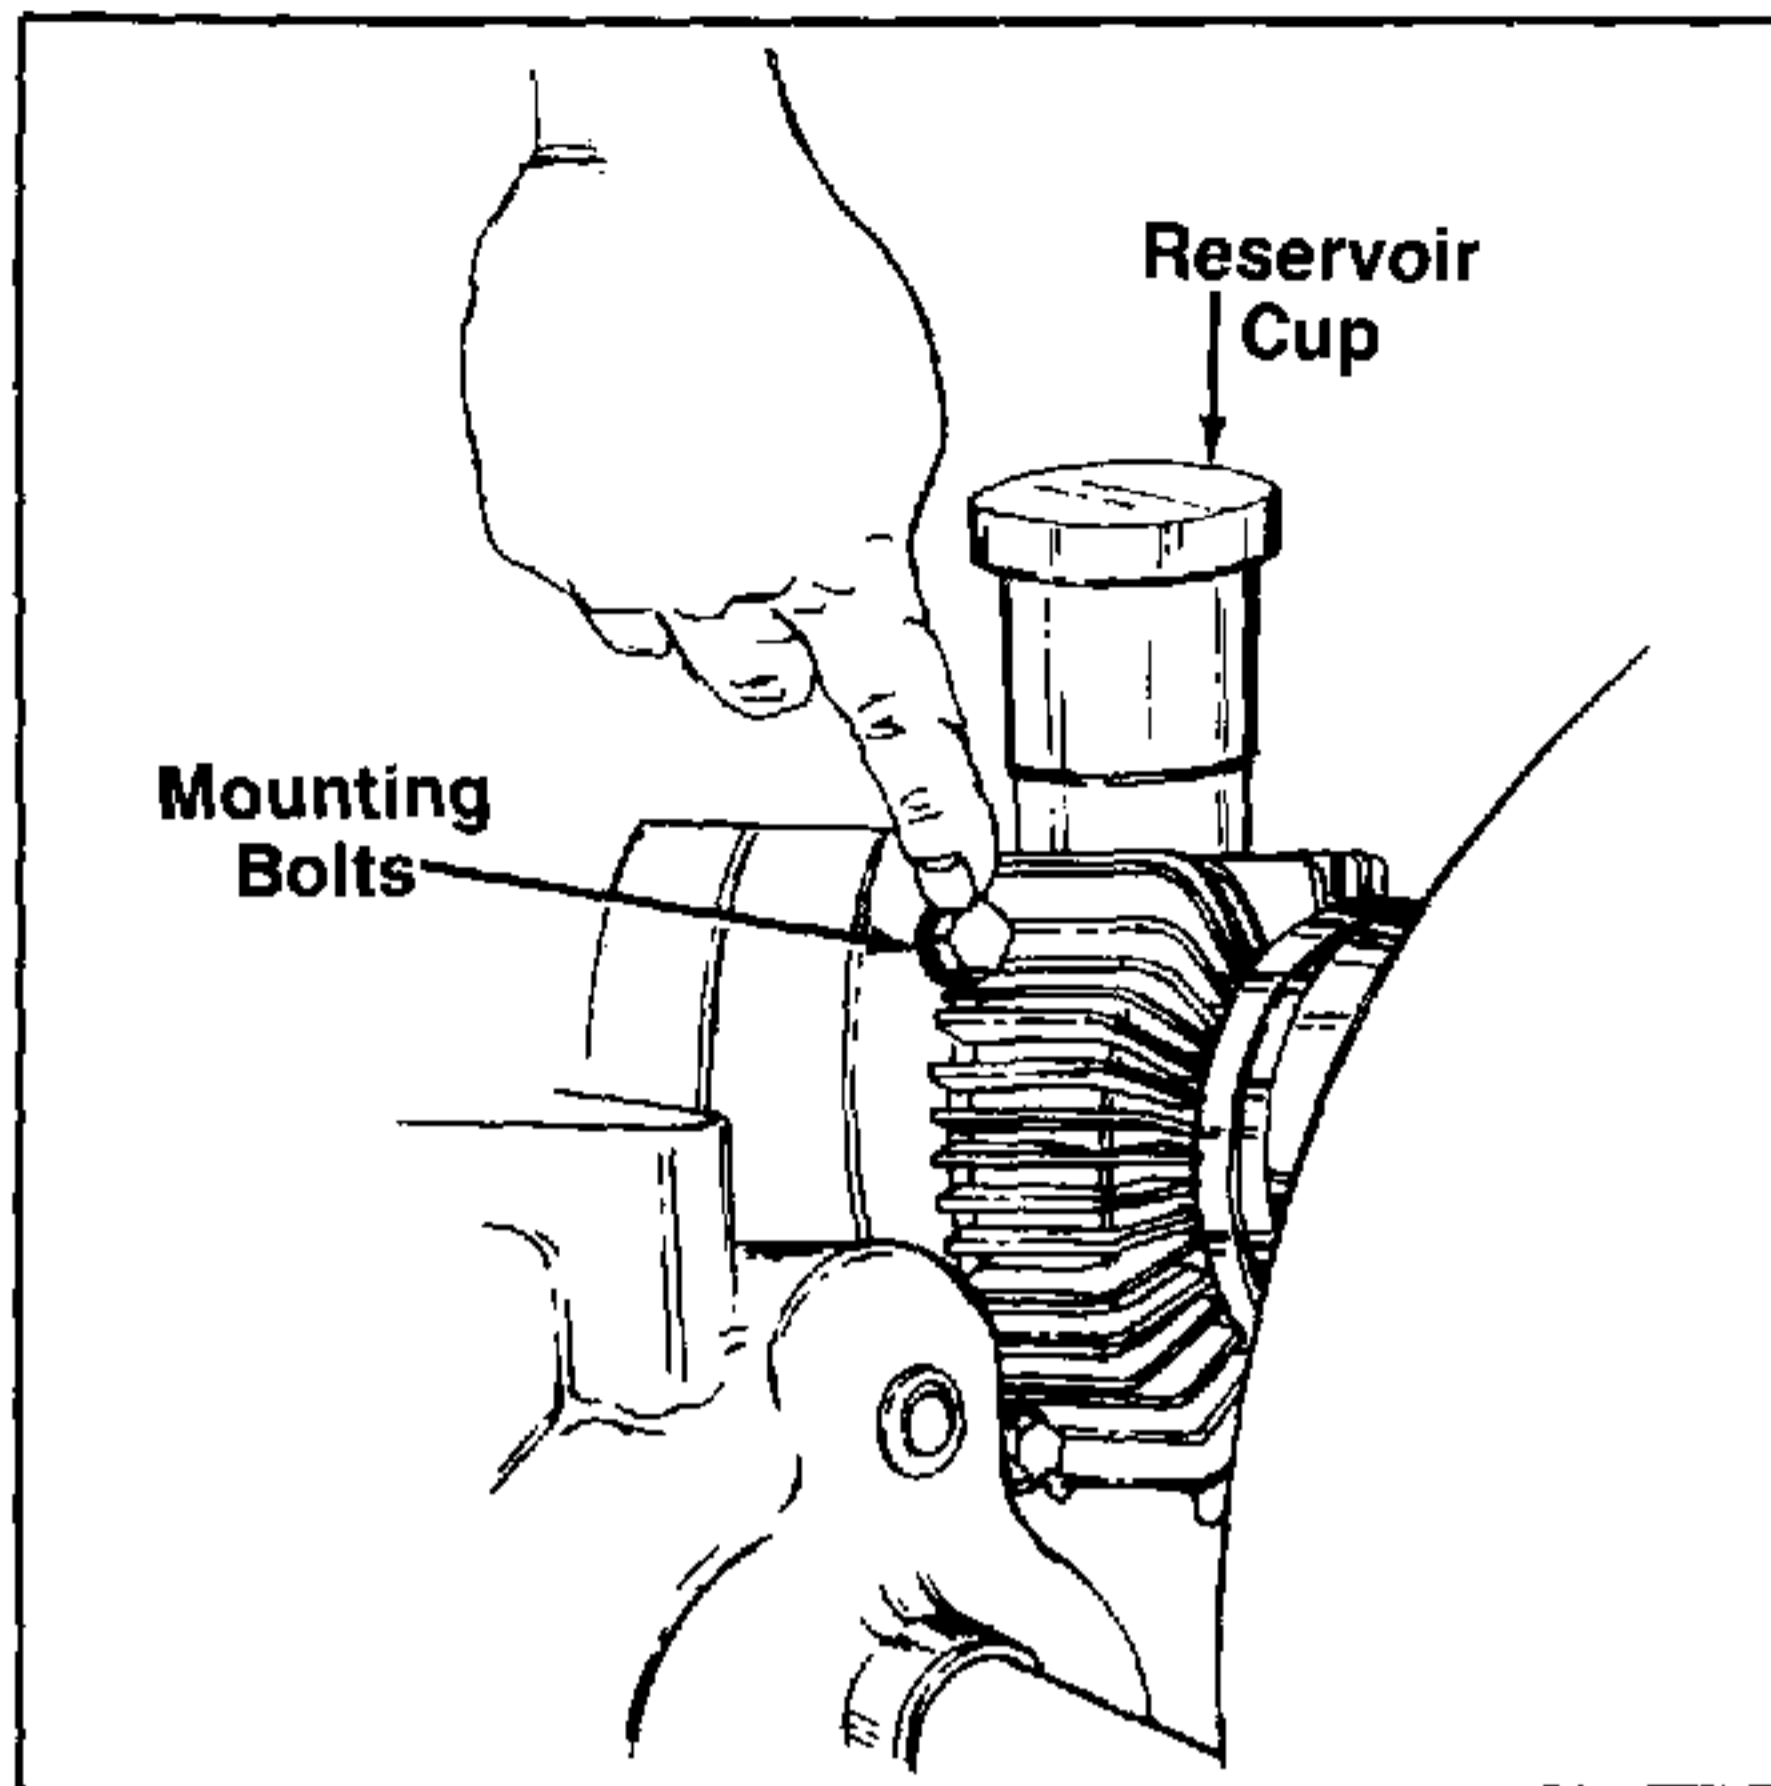

FIGURE 10.
NOTE: BE CAREFUL NOT TO DAMAGE TRANSMISSION RESERVOIR CUP. See figure 10.
12. Remove the transmission from the final drive housing, by removing the two remaining mounting bolts. See figure 10.